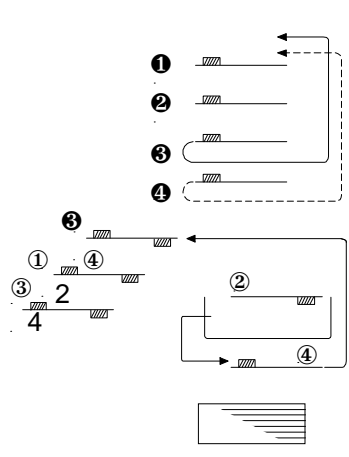

Fig 6
- 6) The 4th original is fed in the scanner and it is fed out from the RDH without exposing. After this, the bottom copy in the duplex tray is fed in preparation for the reverse side copying [Fig 6].
- 7) The 3rd original is scanned. The copy which has been in the stand-by position is fed for copying the 3rd original and then fed out onto the copy tray [Fig 6].